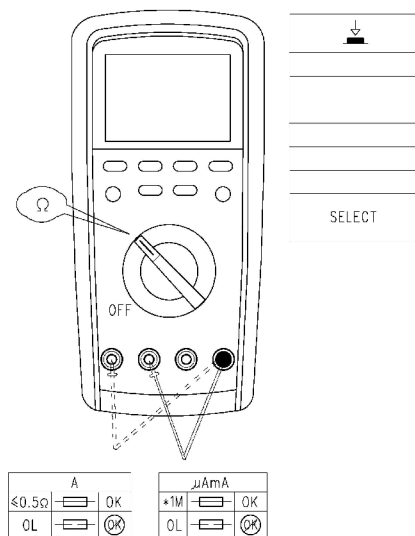

Figure 4b
- *. By virtue of function of resistance measuring, it is allowed to make self-check on built-in fuse. Refer to (Figure 4b).